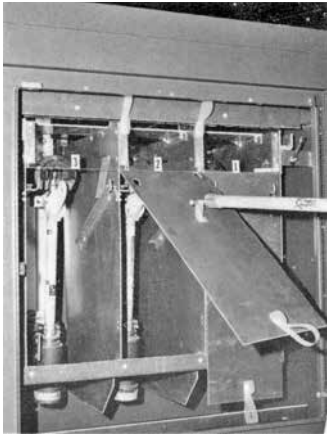

Figure 17.
4. Pull the fuse open with one brisk continuous motion to fully open position (45°). Maintain downward force on fuse until fuse opening motion has ceased to prevent tendency for fuse to bounce toward the closed position. See Figure 17.
10. Insert grappler prong into fuse pull ring and push up briskly on the fuse assembly, completing the closing stroke in one motion. See Figure 17.